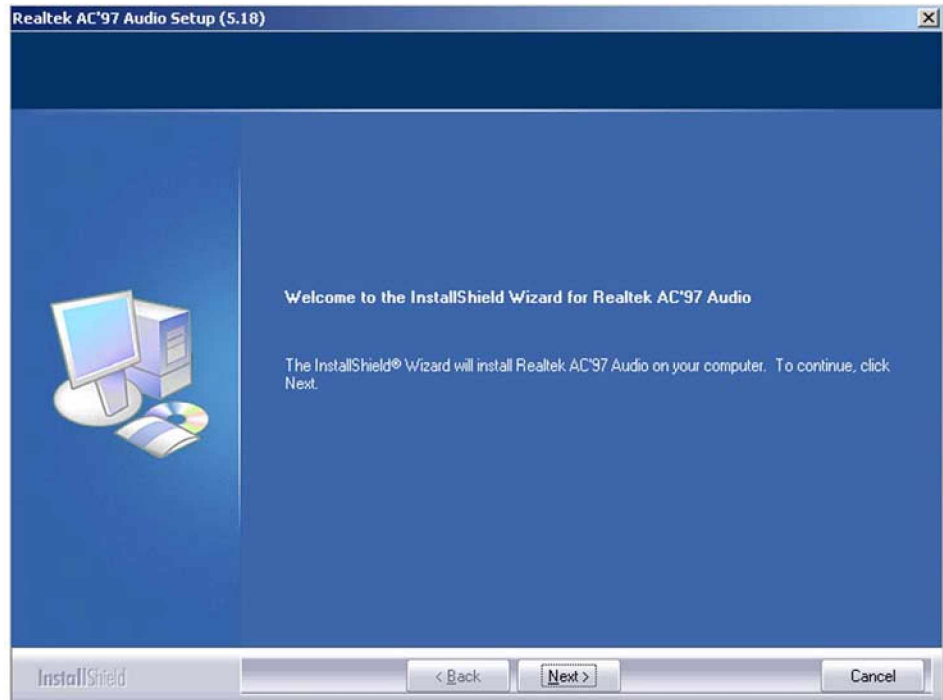
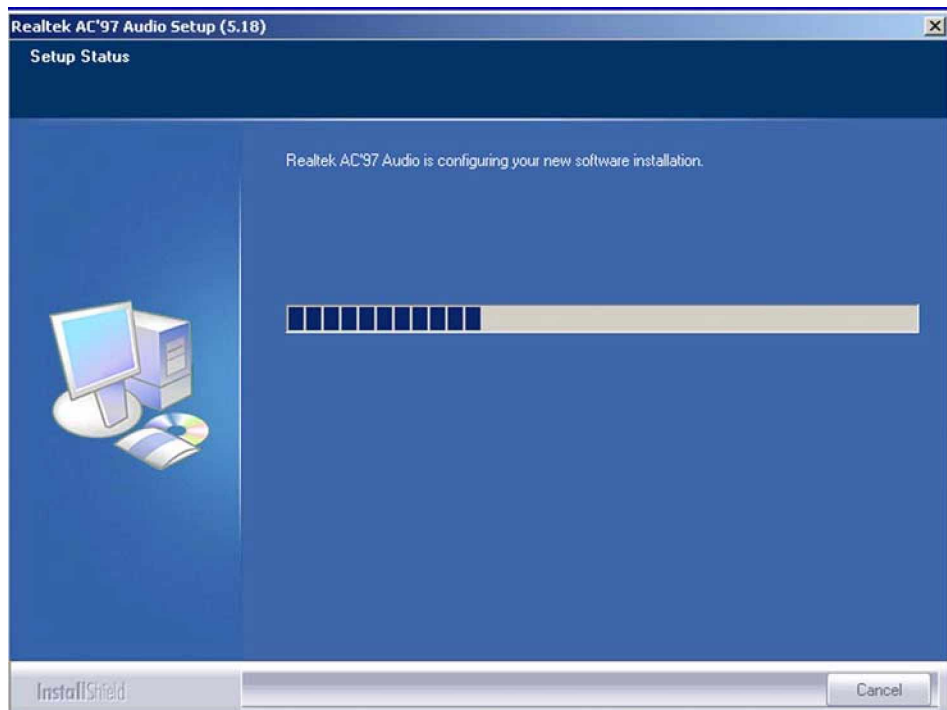

Figure 6-8: Audio Driver Welcome Screen
Figure 6-9: Audio Driver Software Configuration
- Step 4:** After install shield is prepared, the welcome screen shown in **Figure 6-8** appears. To continue the installation process, click the "**NEXT**" button. The install shield starts to configure the new software as shown in **Figure 6-9**.